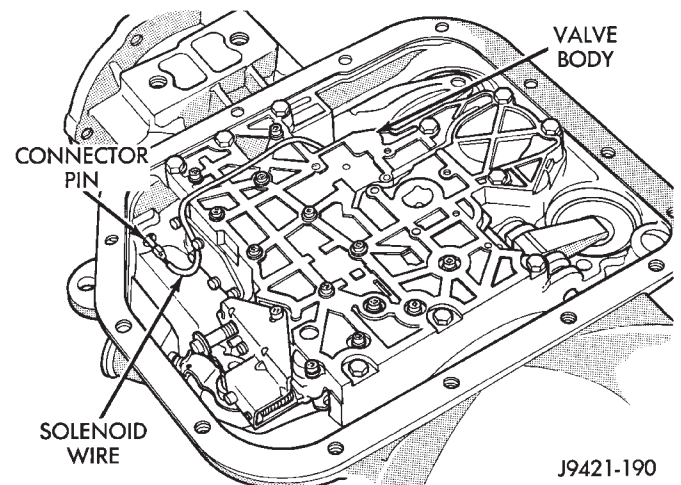

Fig. 161 Valve Body Installation
(5) Place valve body manual lever in low to move park lock rod rearward.
(6) Position valve body on case. Work park rod past sprag and install valve body-to-case bolts finger tight.
(7) Install park/neutral position switch in case. Tighten switch to 34 N·m (25 ft. lbs.) torque.
(8) Align valve body on case (Fig. 161).
(9) Install and tighten valve body-to-case bolts alternately and evenly to 12 N·m (105 in. lbs.) torque. Start at center and work outward when tightening bolts. **Do not overtighten valve body bolts. This could result in distortion and cross leakage after installation.**
(10) Connect converter clutch solenoid wire to case connector (Fig. 161).